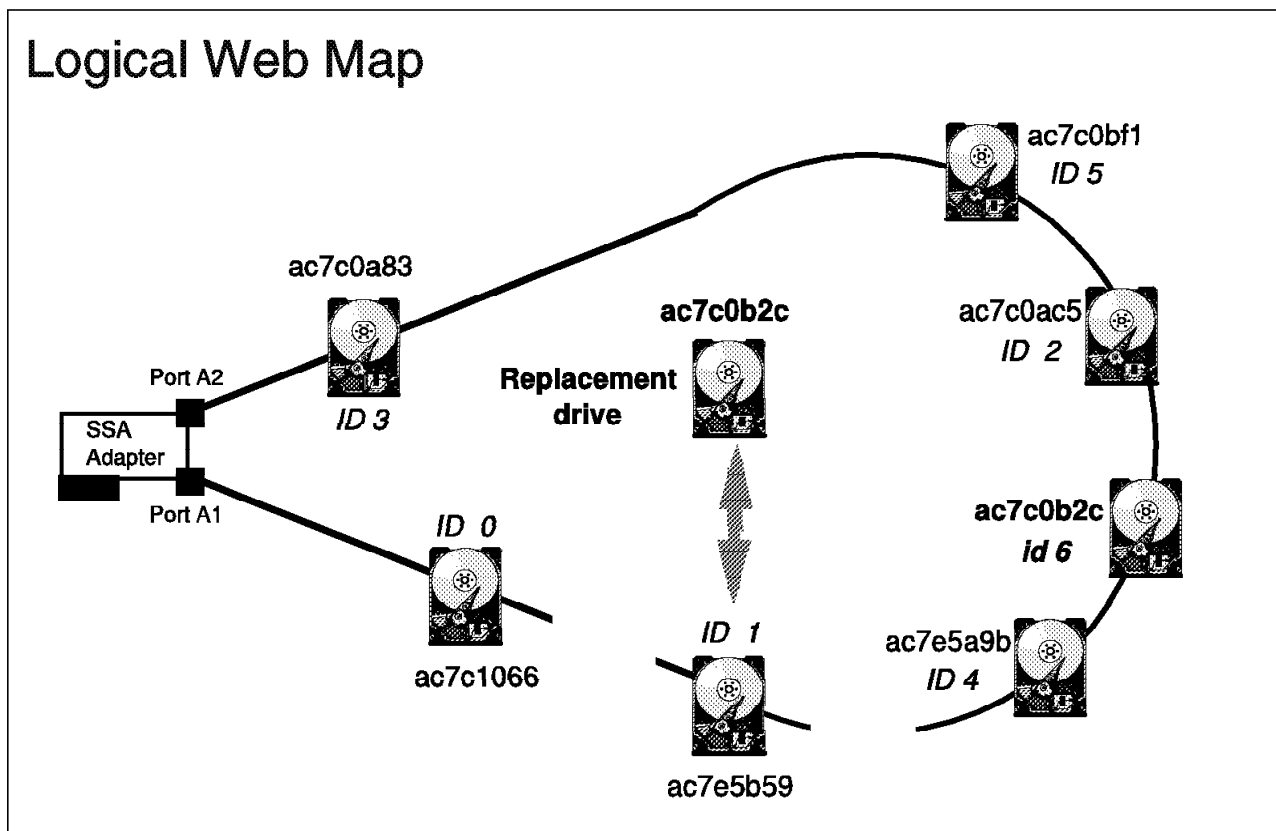

Figure 121. SSA Drive Replacement in a Loop
When you replace a drive in a loop, the loop will be broken into two strings, thus allowing continued I/O between the other SSA devices, as shown in Figure 121.
6. Insert the replacement drive (The example replacement drive has UID **ac7c0b2c** as in Figure 121)